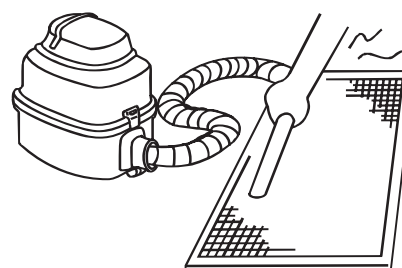

Fig.4-8
- 6) The air-in side should face up when using vacuum cleaner. (See Fig.4-8)